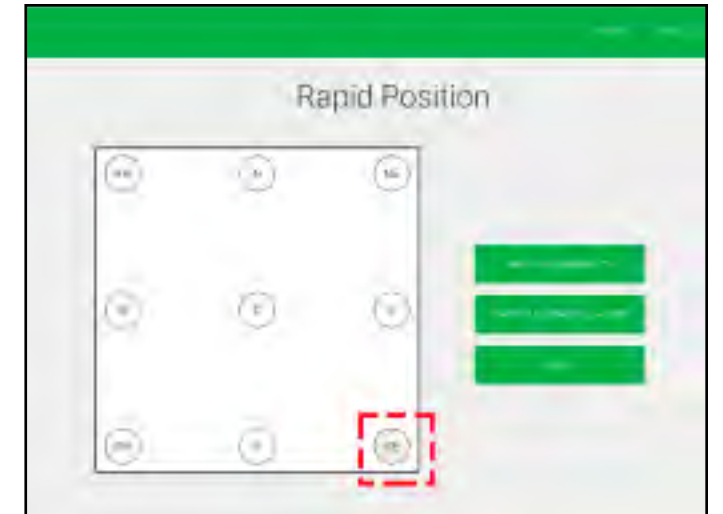

Figure 10-12
5. Click the **SE** button to move the router to the front-right corner of the machine. See **Fig. 10-12**.